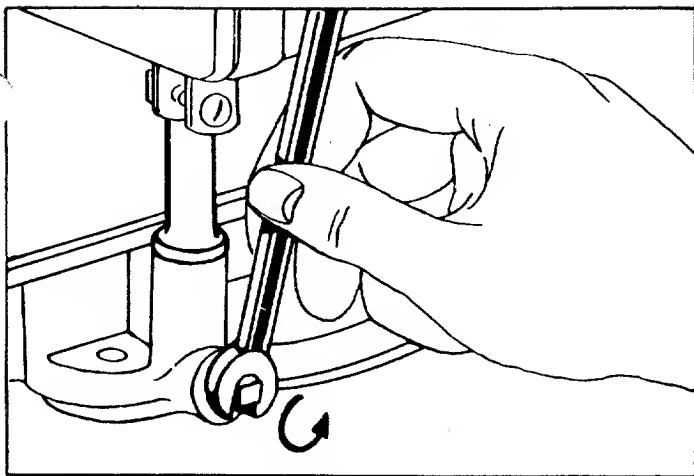

FIGURE 15. OIL DRAIN
After the first five hours of operating a new engine, drain the oil (See figure 15.) from the crankcase while engine is still hot and refill crankcase with new oil; thereafter change the oil every 25 hours of operation. This procedure ensures for minimum wear of engine parts and provides for virtually trouble-free operation. To change the oil, proceed as follows:
- Step 1. With the machine on level ground, place a suitable metal container under the oil drain plug, then remove the drain plug. See figure 15.